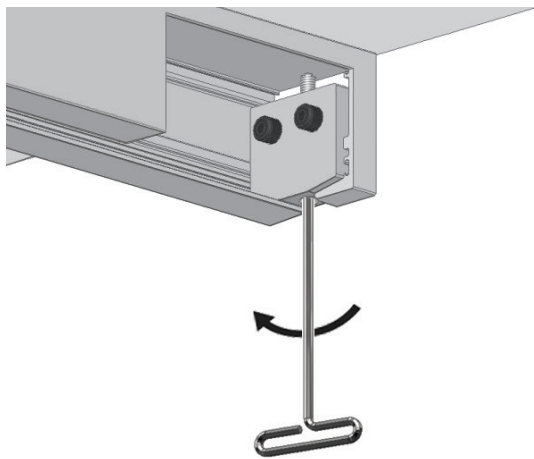

Figure 6
2. Using a 3/16" Hex Drive Socket or T-Handle Hex Tool, turn the set screw clockwise until it sits tight against the top of the Track (Fig 6).